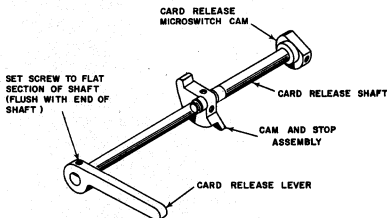

Figure 22
1. Tighten the card release lever set screw against the flat section of the card release shaft so the lever is flush with the end of the shaft (Figure 22).